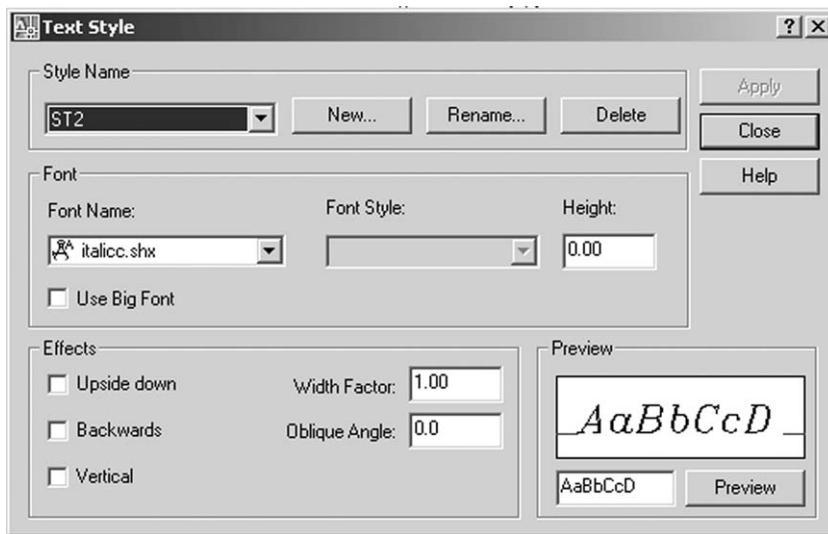

Figure 13.3 The Text Style dialogue box for created style ST2.
d) note the Preview box – Figure 13.3